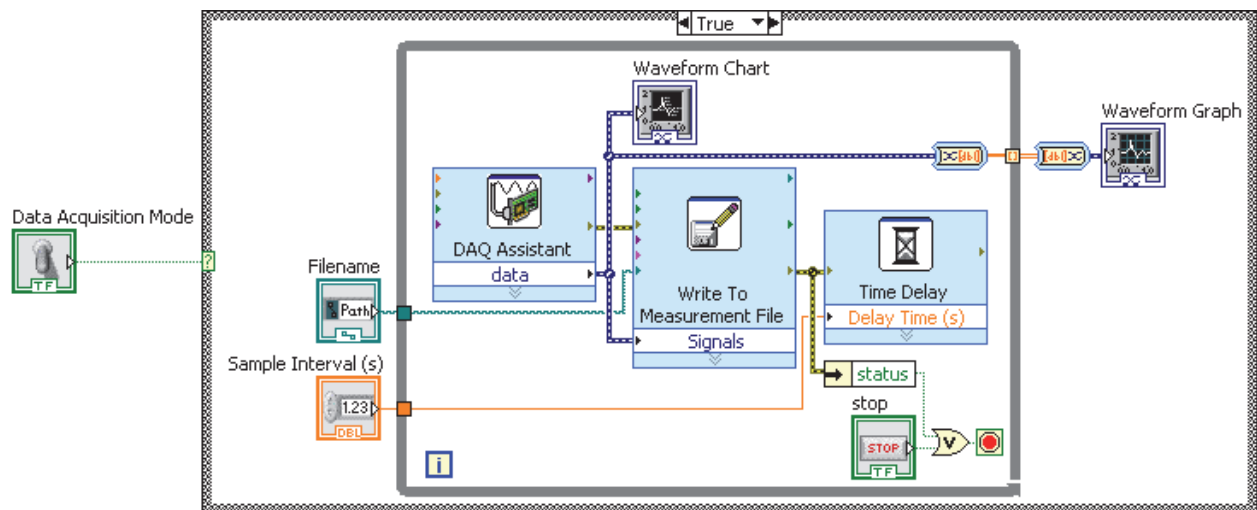

Figure 1.4.1 The general analog input VI showing the option to measure data continuously
4. Develop the software-timed analog input VI shown in Figs. 1.4.1 and 1.4.2, which can acquire either a finite set of measurements or acquire measurements continuously until stopped by the user.
The general analog input VI that is to be developed in this problem is designed to allow the user to select finite or continuous measurement of data. For this VI, the user will provide input through the front panel to select a measurement case for data acquisition: either continuous or finite. A Case Structure (represented by the outermost border in Figs. 1.4.1 and 1.4.2) will be used to determine what case will be executed. When the data acquisition mode is set to “True”, data is taken continuously. Likewise, when the data acquisition mode is set to “False”, a finite set of data is taken. Two cases (True and False) of the same Case Structure are shown in Figs. 1.4.1 and 1.4.2.
4. Resize the Case Structure to be large enough to contain the functions, structures, and VIs shown in Figs. 1.4.1 and 1.4.2.
Note: The user was not asked to choose a file to avoid the potential of delaying data acquisition. Based on the execution of the block diagram in Fig. 1.4.1, the Write to Measurement File Express VI executes after the measurement task is created and samples are taken. If the user was asked to choose a file, the execution of the program would be suspended until a filename was provided by the user. Potential measurements could be missed if the physical event occurred quickly.
19. Click on the filename input terminal with the “Position” (arrow) cursor and drag the terminal near the left border of the Case Structure, as shown in Fig. 1.4.1, so that it will be outside of the inner loop.